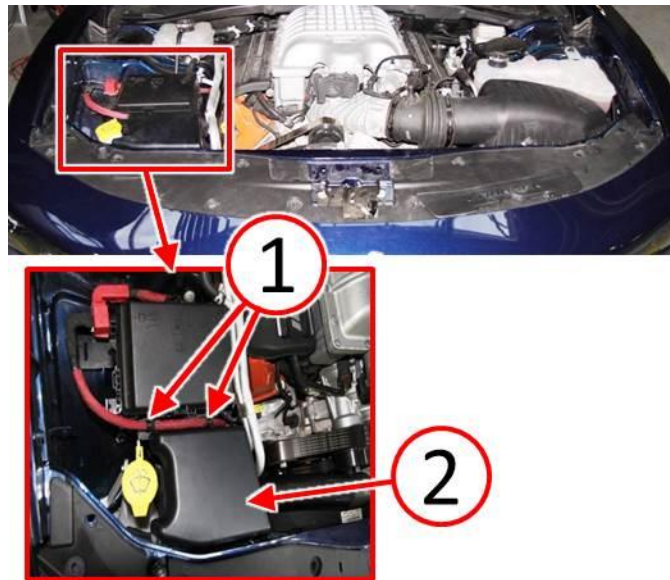

Fig. 1 Remove ABS Module Cover
3. Remove two push pin connectors (1) that wrap around battery cable and capture tabs on ABS Module cover (Fig. 1).
4. Remove the ABS Module cover (2) (Fig. 1).